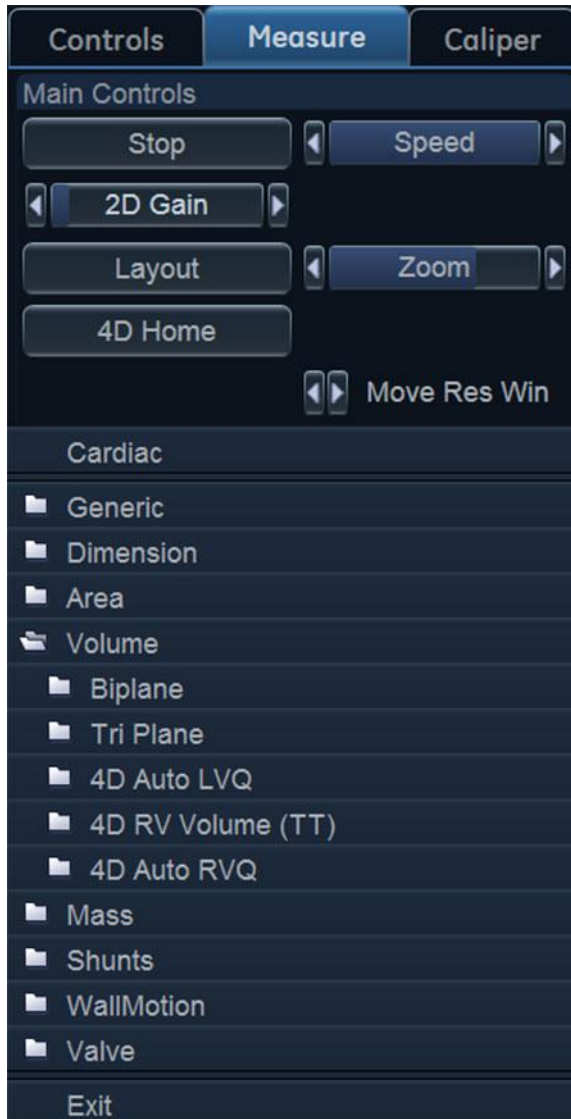

Figure 8-51. Selecting the 4D Auto RVQ tool.
3. Select **Volume > 4D Auto RVQ** (Figure 8-51)